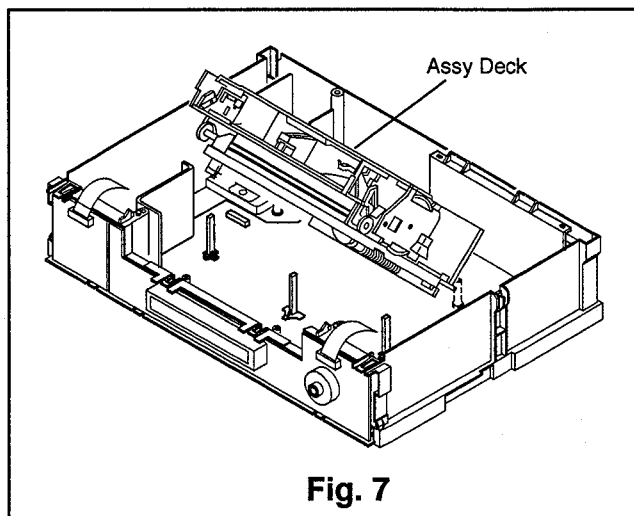

Fig. 7
- ③ Raise the front side of the Assy Deck upward as shown in Fig. 7 and support it with a screw driver, etc. Servicing on the components side is now possible.